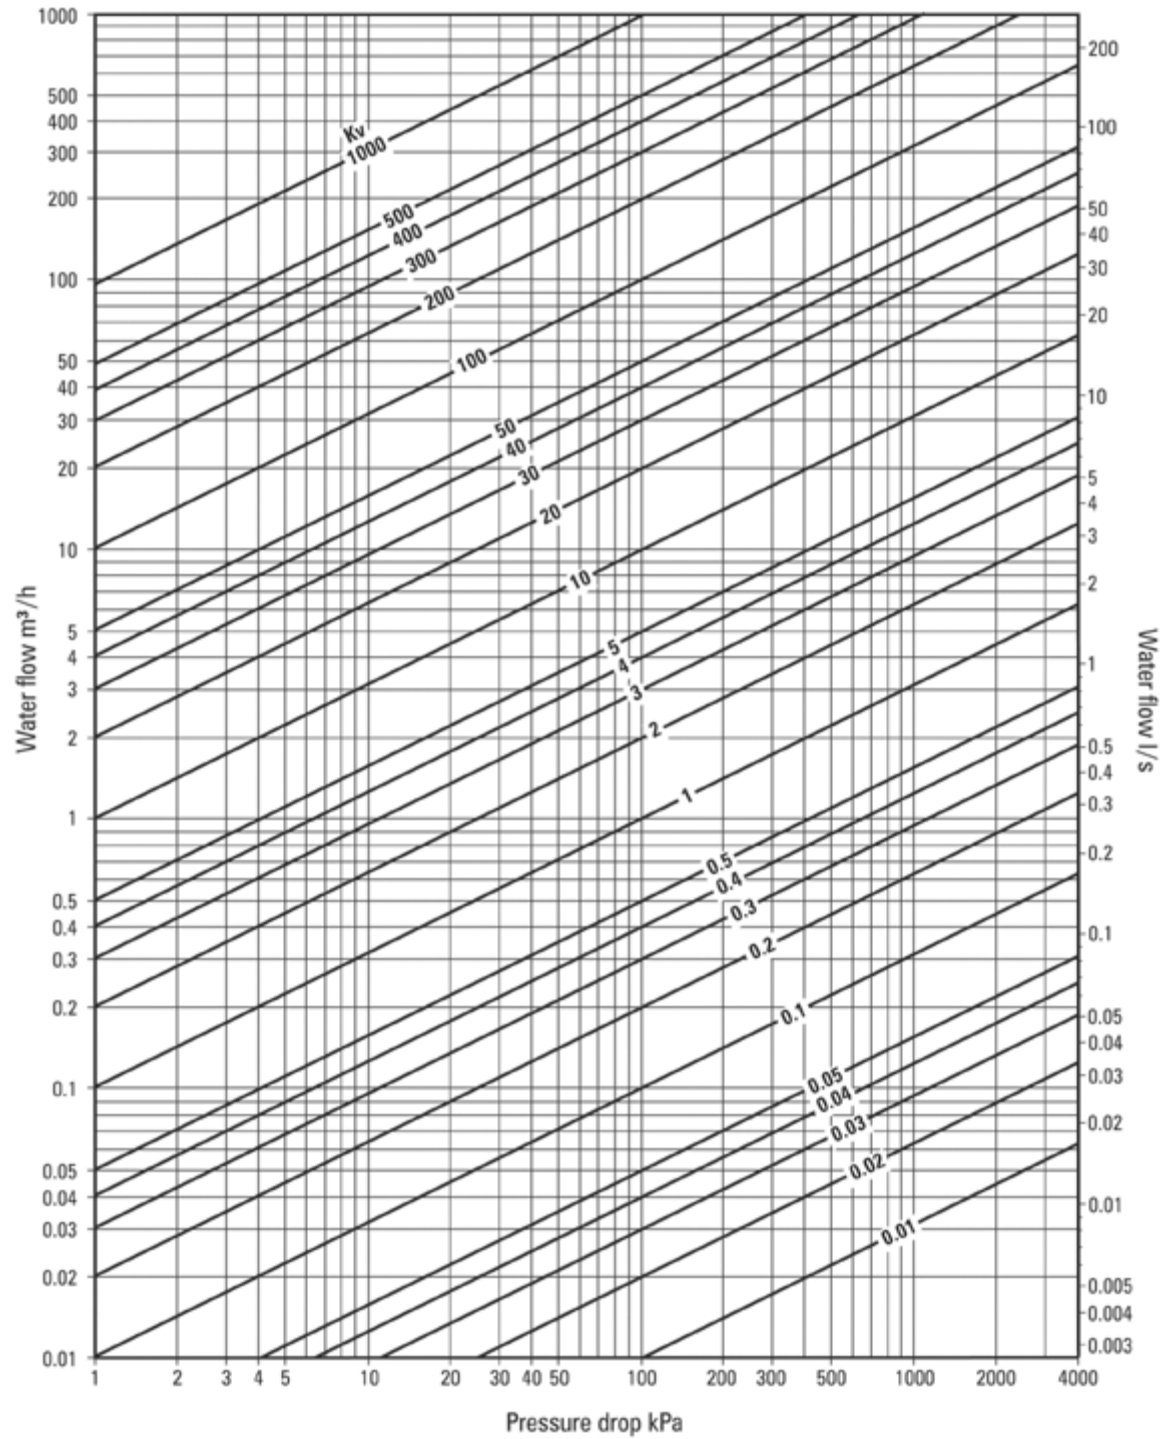

Fig. 6.3.2 Water Kv chart
**Alternatively**, the water  $K_V$  chart (Figure 6.3.2) may be used.